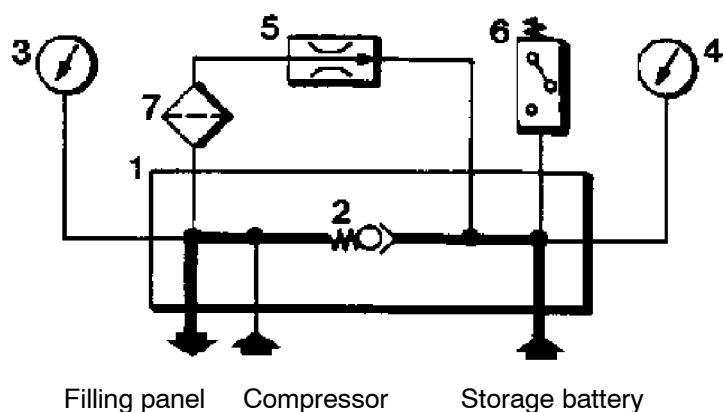

Fig. 36 Filling from storage cylinders (overflow)
- With filled storage cylinders (2), first the air compressed to a higher pressure flows from the storage cylinders via the non-return valve and filling panel (4) into the compressed air cylinders (see Fig. 36).